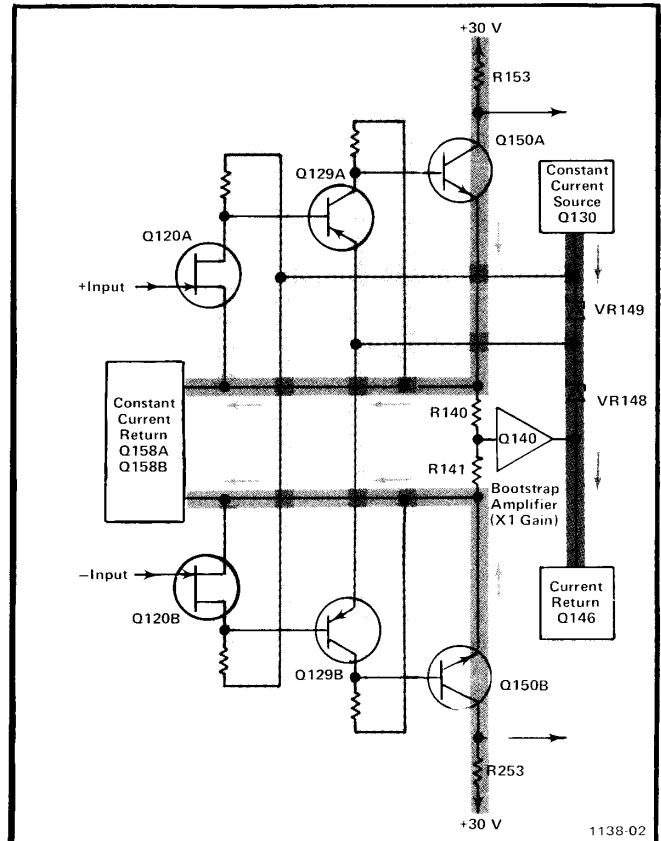

Fig. 3-2. Floating Power Supply detailed block diagram showing standing current paths through the Preamplifier.
**Floating Power Supply.** A floating power supply made up of Q130, Q140, Q146, VR148, and VR149 minimizes inherent common-mode difficulties and therefore improves the common-mode rejection ratio (refer to Fig. 3-2). Transistor Q146 is a constant-current high-impedance source for Q140, and Q130 is the current return for the preamplifier stage.